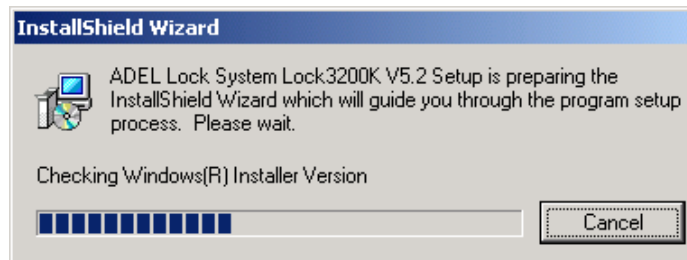

Figure 1-11
- 7) Click **Install ADEL Lock System Lock3200 V5.2**. Figure 1-11 appears. The files will be decompressed.